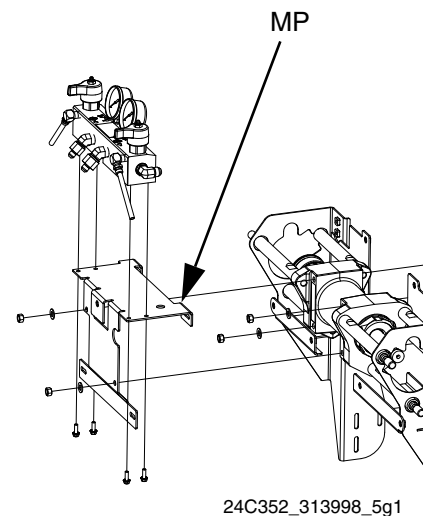

FIG. 6
5. See FIG. 6. Remove four screws securing pumpline to hydraulic power pack. This will also loosen manifold plate (MP) from hydraulic driver.
2. See **FIG. 6**. Align manifold plate (MP) with hydraulic driver. Align hydraulic driver with hydraulic power pack. Install four screws securing hydraulic driver to hydraulic power pack. This will also install manifold plate (MP) to hydraulic driver. Torque to 300 in-lb (33.9 N•m).